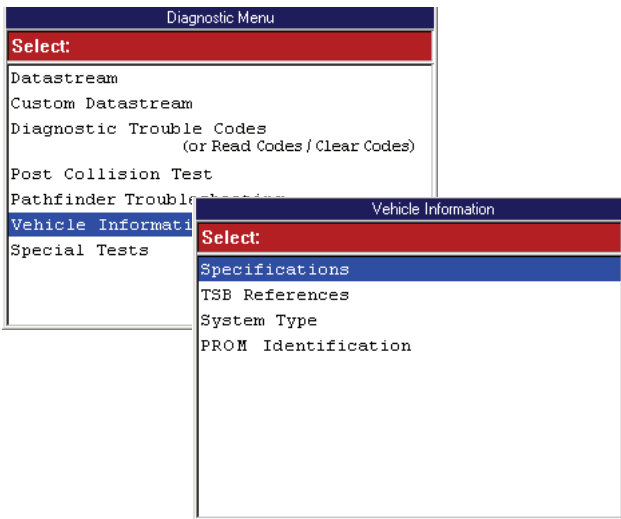

Figure 11.1: Diagnostic Menu Screen and Vehicle Info Screen
- 1 Follow the steps in Basic Procedure to display the Vehicle Info screen (see Figure 11.1).
- 1 Follow the steps in Basic Procedure on page 63 to display the Vehicle Info screen (see Figure 11.1).